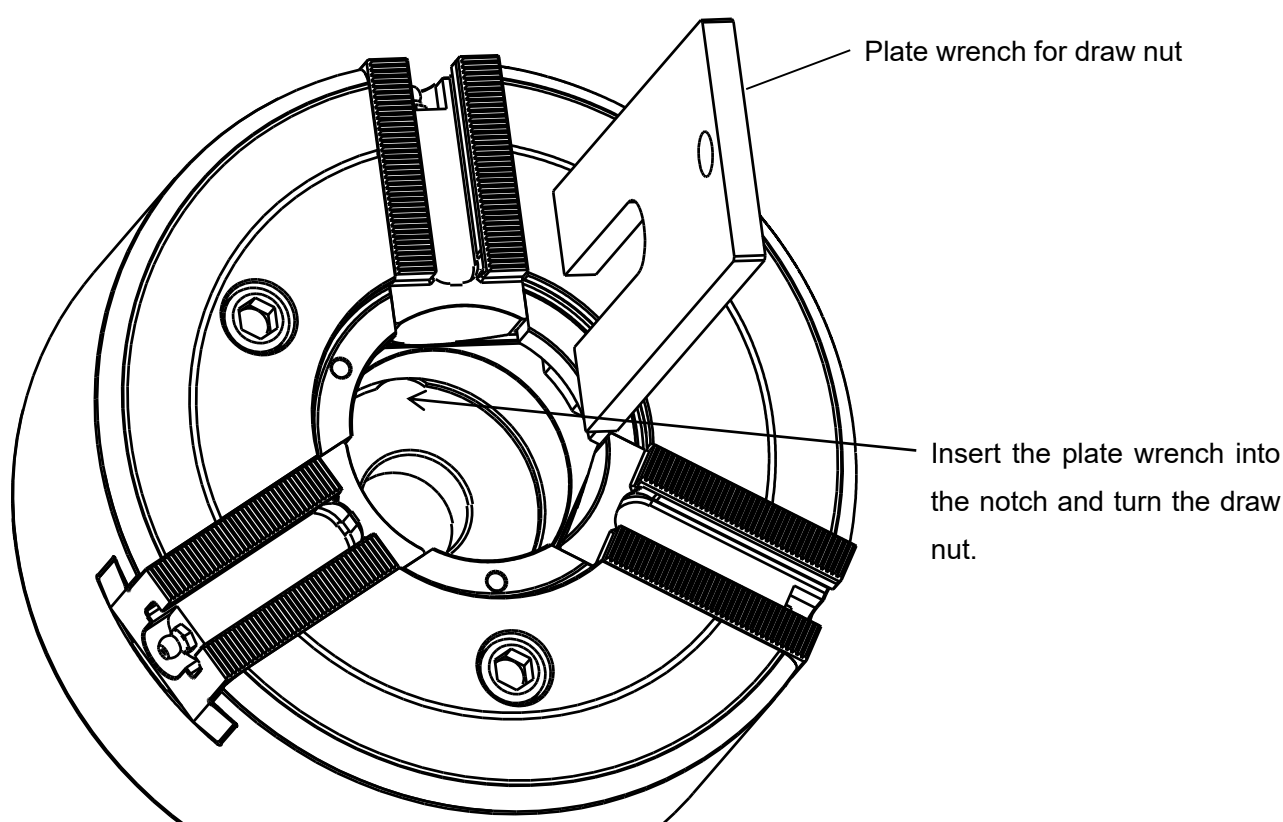

Figure 18
- ③ Install the cylinder on the spindle.
- ④ Check the run-out of the cylinder. If normal, connect the hydraulic hose and the drain hose.
- ⑤ Turn on the machine power, and operate the cylinder several times at 0.5 MPa. If it is normal, move the piston to the forward end and turn off the machine main power.
- ⑥ Remove the soft jaws and cover of the chuck.
- ⑦ Insert the draw nut plate wrench into the chuck center hole as shown in figure 18, and connect the draw nut to the draw pipe while rotating the draw nut. If it cannot be screwed in smoothly, do not screw forcibly and check the thread for inclination.
- ⑧ Rotate the draw nut until the chuck is completely fitted to the spindle installation surface.
- ⑨ Tighten the chuck mounting bolts evenly with the specified torque. (See “2.Important Safety Precautions”) The chuck circumference run-out must be 0.020 mm T.I.R or less. When performing centering adjustment, tap the body side face with a plastic hammer.
- ⑩ Rotate the draw nut until the master jaw base line is aligned with the outer line of the stroke mark. (Refer to page 23.)